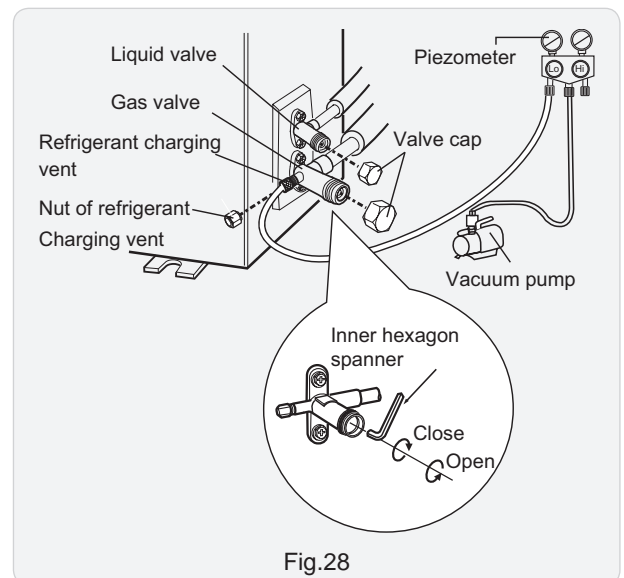

Fig.28
(1) Remove the valve caps on the liquid valve and gas valve and the nut of refrigerant charging vent.
(2) Connect the charging hose of piezometer to the refrigerant charging vent of gas valve and then connect the other charging hose to the vacuum pump.
(3) Open the piezometer completely and operate for 10-15min to check if the pressure of piezometer remains in -0.1MPa .
(4) Close the vacuum pump and maintain this status for 1-2min to check if the pressure of piezometer remains in -0.1MPa . If the pressure decreases, there may be leakage.
(5) Remove the piezometer, open the valve core of liquid valve and gas valve completely with inner hexagon spanner.
(6) Tighten the screw caps of valves and refrigerant charging vent. (As show in Fig.28)